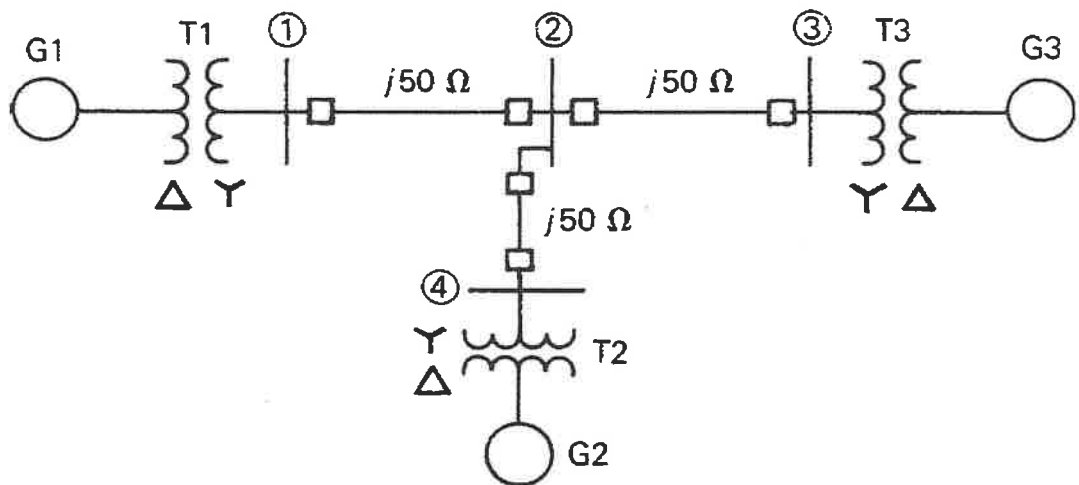

Figure Q4: The four bus power system.
b) Equipment ratings for the four-bus power system shown in Figure Q4 are as follows:
- b) Equipment ratings for the same four-bus power system shown in Figure Q4 are given as follows: